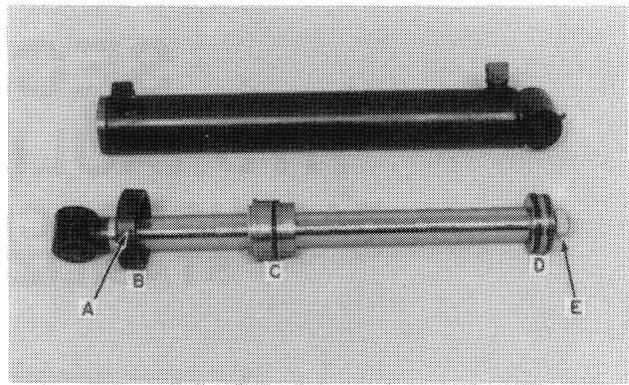

FIGURE 2-3
2. Loosen setscrew, A, Figure 2-3, in the cylinder head cap and unscrew the cap.
3. Pull the piston rod assembly out of the barrel. In Figure 2-3, B is the head cap; C is the head; D is the piston.
4. Put Loctite hydraulic sealant in the piston bore at A, Figure 2-6. Install the piston on the piston rod with the recessed side, B, towards the piston rod. Install nut, E, Figure 2-3, and tighten to 320 ft. lbs. (434 N·m) torque.